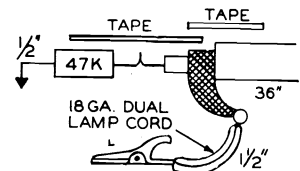

Fig. 5 DECOUPLING FILTER
4. Connect oscilloscope high side to test point "V" through decoupling filter of figure 5, low side to chassis.
15. Maintain generator output to produce approximately 0.2 volts P-P indication on the oscilloscope (as above) and adjust the grid coil (L-5) to center the 44.0 mc marker on the peak of the response as indicated in Fig. 5, disregarding the tilt of the overall waveshape.